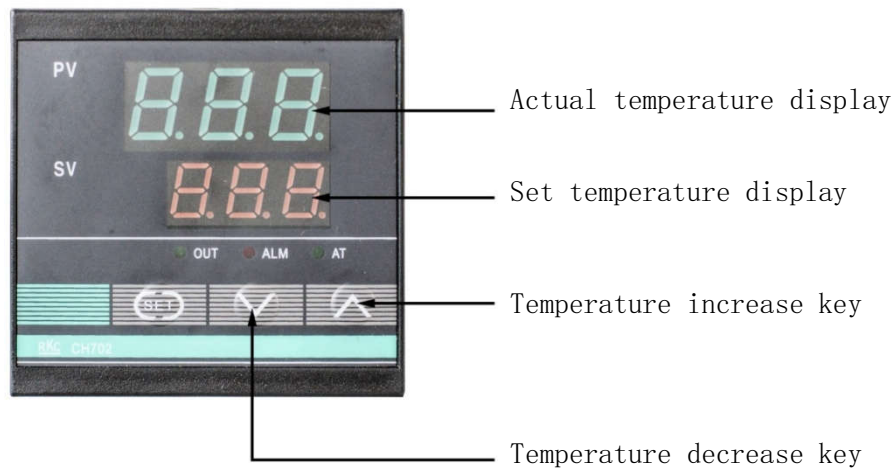

Figure 7
8.4.2.2 Melt glue temperature regulation (Figure 7):